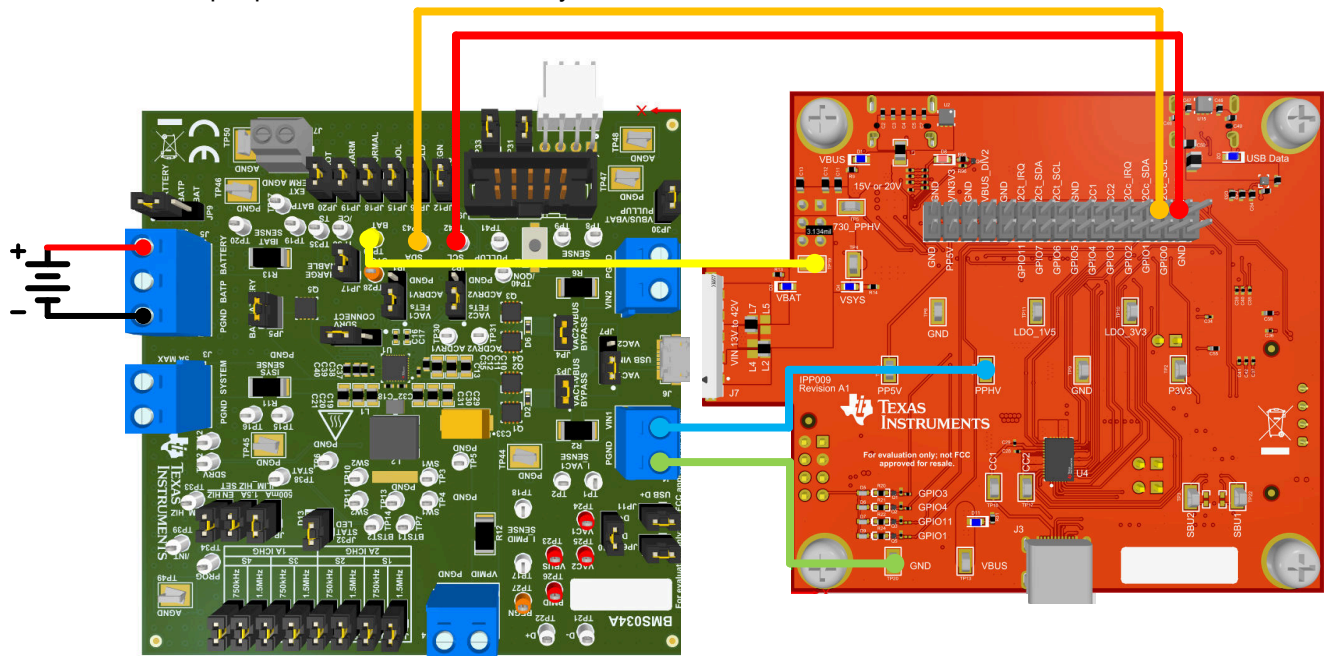

Figure 4-6. TPS25751EVM and BQ25792EVM, BQ25798EVM Hardware Setup
2. Figure 4-6 shows how to use the test hook clips or jumper wires to connect the two EVMs. See Table 4-2 for details.